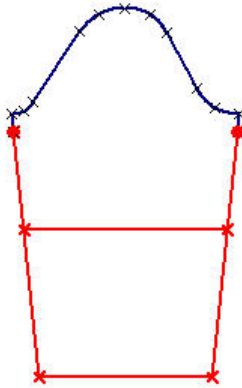

Figure 9. Select and delete objects
- 12.** Select and delete the objects shown in Figure 9 including the standard points placed.